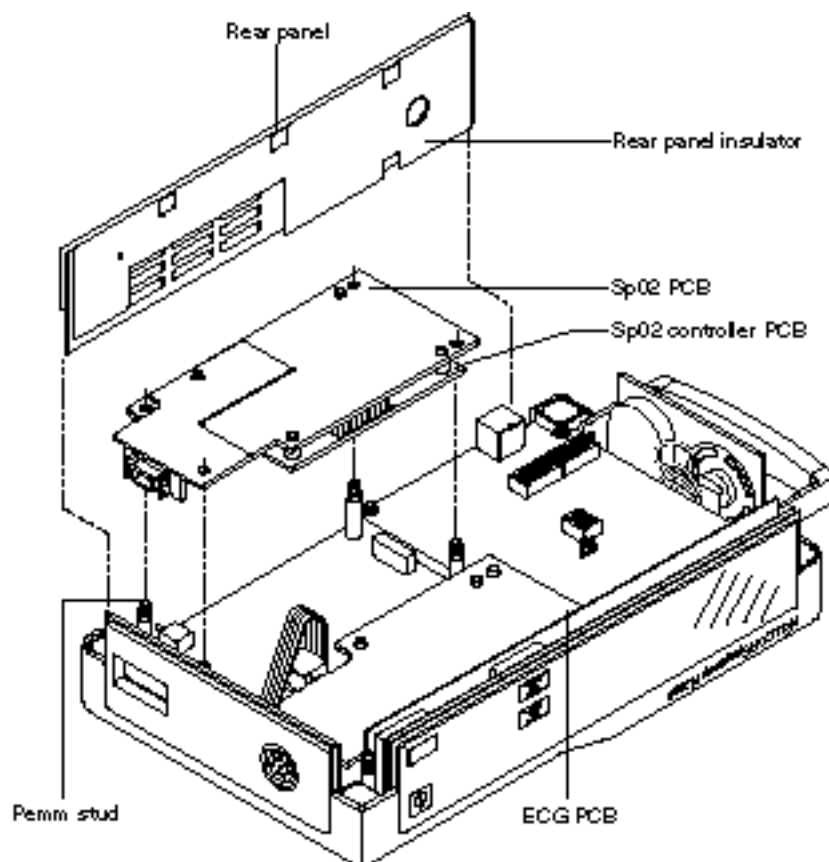

Figure 6-7: Rear Panel and SpO2 Module Disassembly
2. Remove the rear panel, rear-panel insulator, and NEW PATIENT/NEONATAL button by lifting up and rotating out of the chassis channel guides as illustrated in Figure 6-7.
- Remove the rear panel, rear-panel insulator, and NEW PATIENT/NEONATAL button by lifting up and rotating out of the chassis channel guides as illustrated in Figure 6-7.